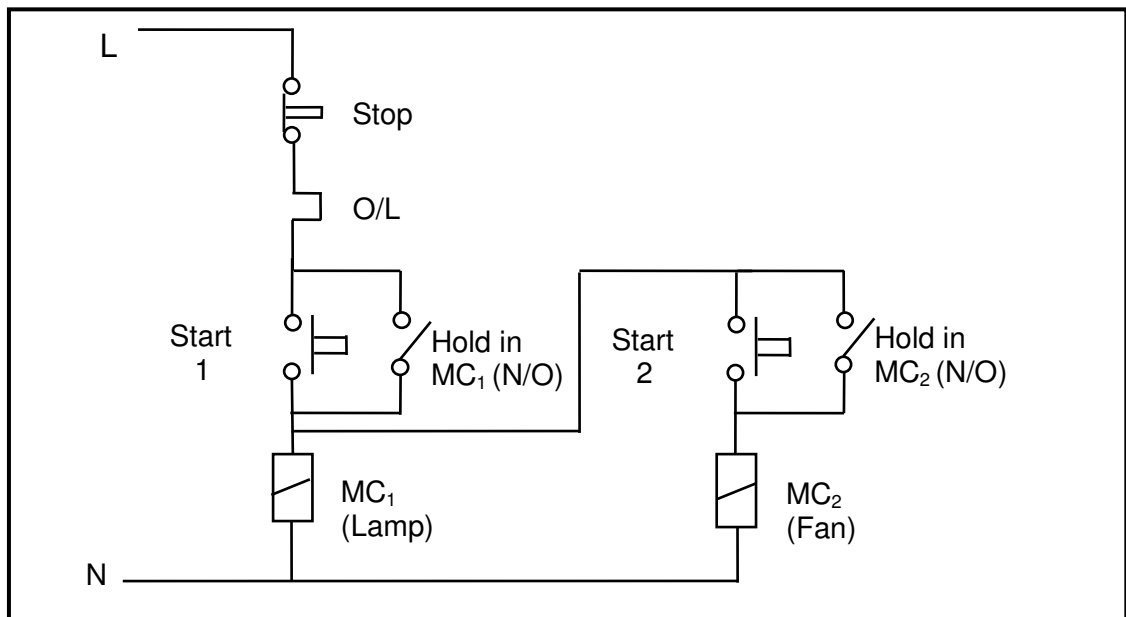

FIGURE 6.2: CONTROL CIRCUIT OF A SEQUENCE STARTER
6.4 Refer to the circuit in FIGURE 6.2.
Draw the PLC ladder diagram that would execute the same function of the relay control circuit in FIGURE 6.2. (8)
6.4.2 State what programming function must be included in the ladder diagram to automate the starting of the fan (MC_2). (1)